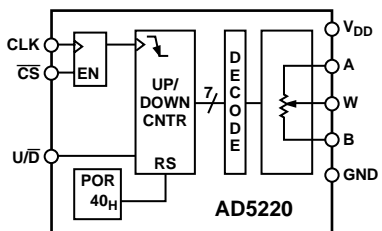

Figure 35. Block Diagram
The AD5220 contains a three-wire serial input interface. The three inputs are clock (CLK),  $\overline{CS}$  and UP/DOWN ( $U/\overline{D}$ ). The negative-edge sensitive CLK input requires clean transitions to avoid clocking multiple pulses into the internal UP/DOWN counter register, see Figure 35. Standard logic families work well. If mechanical switches are used for product evaluation they should be debounced by a flip-flop or other suitable means. When  $\overline{CS}$  is taken active low the clock begins to increment or decrement the internal UP/DOWN counter dependent upon the state of the  $U/\overline{D}$  control pin. The UP/DOWN counter value (D) starts at  $40_H$  at system power ON. Each new CLK pulse will increment the value of the internal counter by one LSB until the full scale value of  $3F_H$  is reached as long as the  $U/\overline{D}$  pin is logic high. If the  $U/\overline{D}$  pin is taken to logic low the counter will count down stopping at code  $00_H$  (zero-scale). Additional clock pulses on the CLK pin are ignored when the wiper is at either the  $00_H$  position or the  $3F_H$  position.